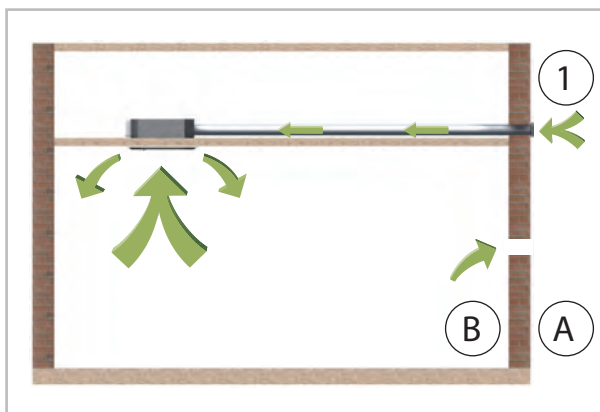

Fig. 23: Fresh air connection
- Fit a collar with a nominal diameter of 65 mm to the fresh air connection (Fig. 23).